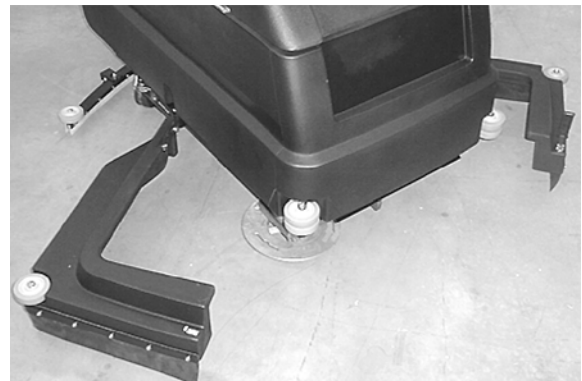

FIG. 6
- Unfasten black latch at front of machine and hinge open skirt housing to access motor hub (Figure 6).